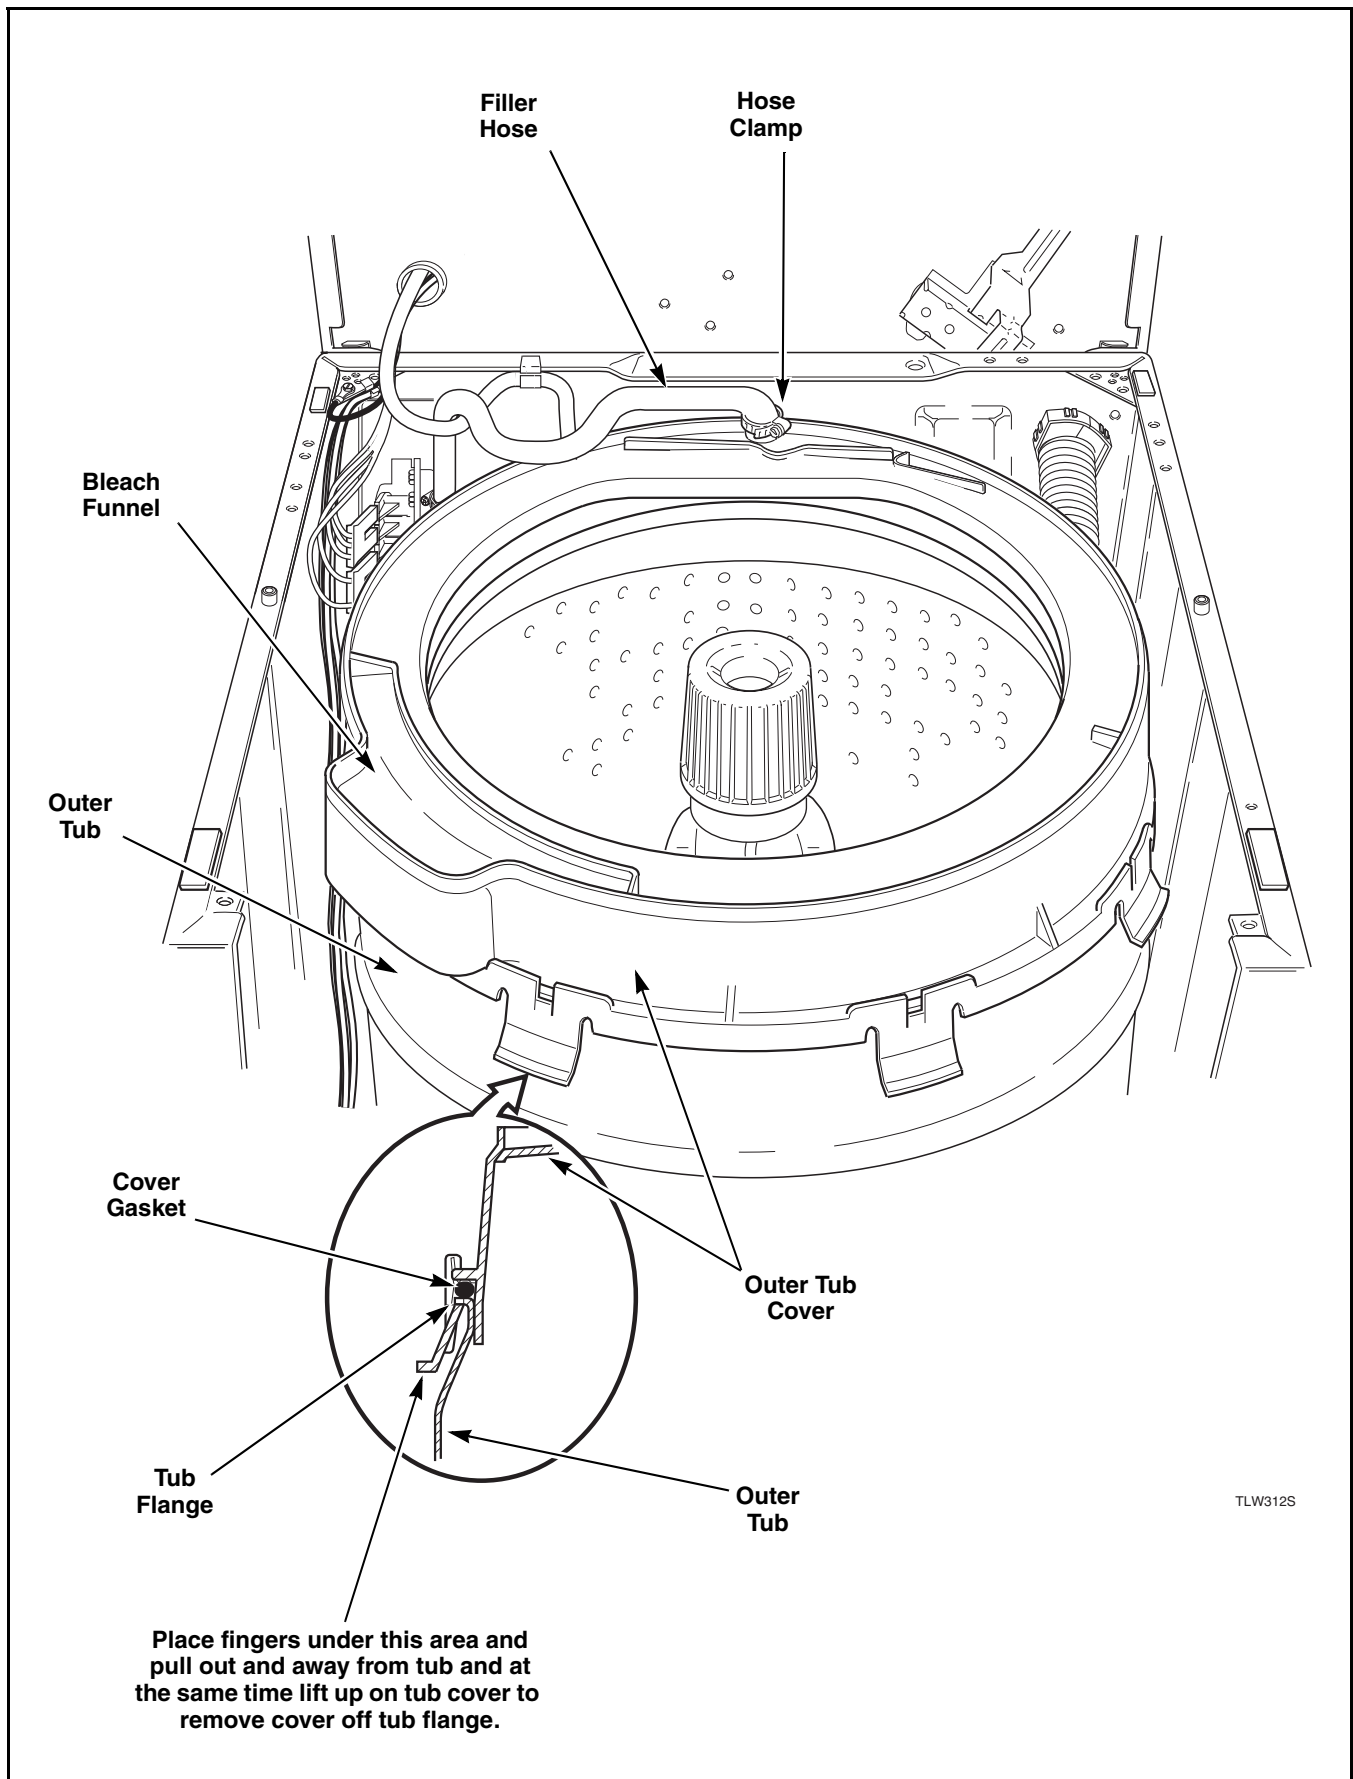

Figure 39
- h. Loosen hose clamp and remove filler hose from outer tub cover. Refer to *Figure 39*.
NOTE: When reinstalling filler hose, white line on hose must point toward front of washer. Refer to *Figure 39*.